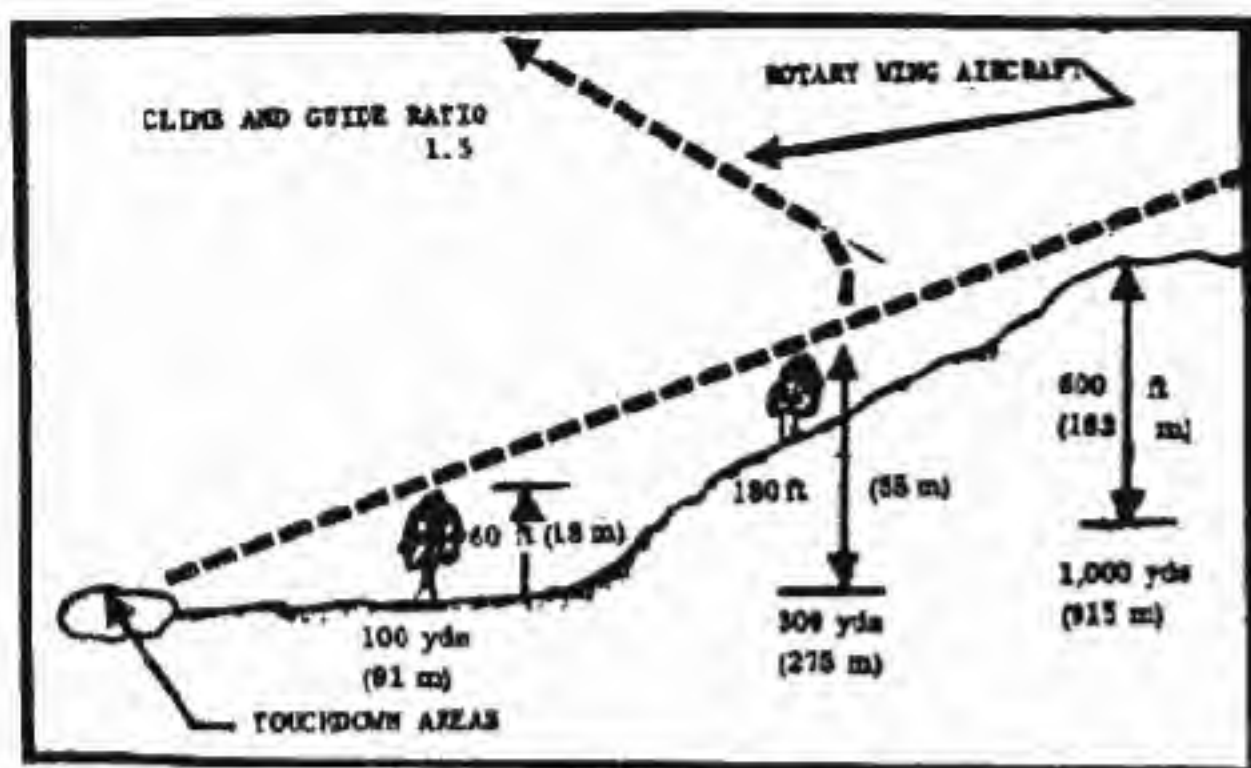

Figure 20. Approaching Takeoff Clearance for Rotary-Wing Aircraft.
- (1) There should be at least one path of approach to the LZ measuring 75 meters in width.
- (2) A rotary wing aircraft is considered to have a climb ratio of 1:5 (Figure 20).
- (3) Takeoff and departure from the LZ may be along the same path used for the approach; however, a separate departure path as free from obstacles as the approach path is desired (Figure 20).